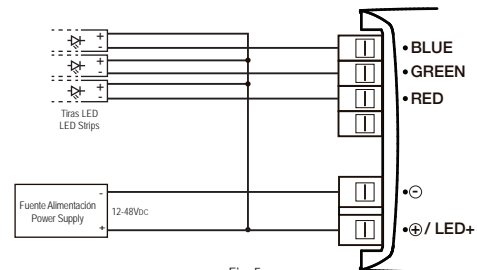

Fig. 5
- Fig. 5: Control of 3 Single-colored LED Strips.
- Fig. 5: Control de 3 Tiras LED Monocolor.